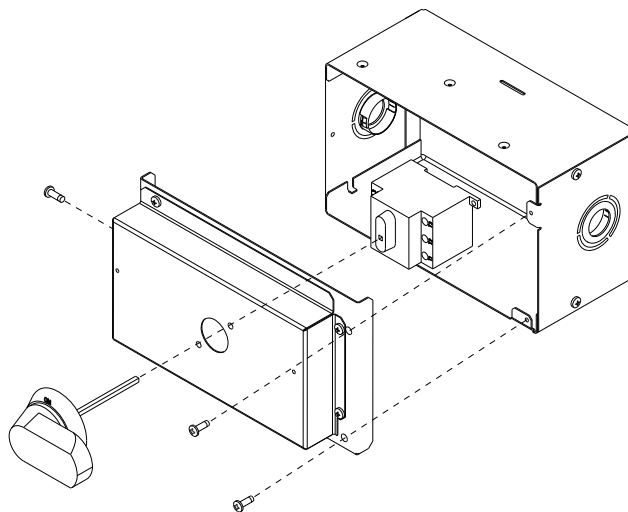

Fig. 27 — NFD Handle and Shaft Assembly
2. Remove 3 cap head screws that secure the NFD enclosure front cover — 2 on the face of the cover and 1 on the left side cover. See Fig. 27.
5. Insert the shaft with the cross pin on the top of the shaft in the horizontal position. See Fig. 27.